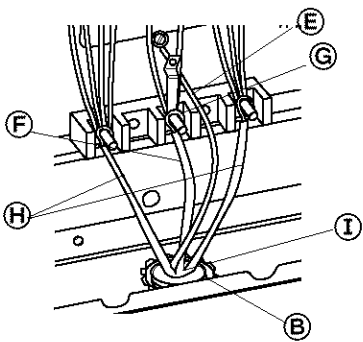

Figure 2
9. Connect the bare ground wire Ⓔ from power supply cable to the range using the ground-link screw. **The ground wire must be attached first and must not contact any other terminal.** See Figure 2.
10. Connect the neutral wire (white wire) Ⓕ to the center, silver-colored terminal screw Ⓖ on the terminal block using the brass terminal nuts that are attached to the inside of the terminal block cover. See Figure 2.
11. Connect the other two wires Ⓖ to the outer terminals on the terminal block. See Figure 2.